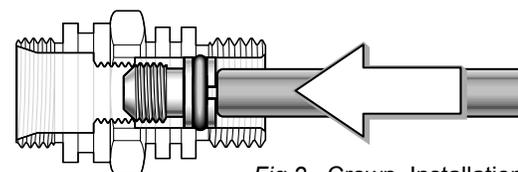

Fig.2 - Crown Installation
2. Install the exhaust grid (10) by inserting the upper tabs into the casing. Push both sides in, followed by pressing in the lower tabs.
3. Install the o-ring (11) on the inlet fitting (12), securing it into the groove at the base of the threads, just above the hex feature.
4. Install the o-ring (20) onto the crown (21), and carefully insert the threaded end of the crown into the hose connection of the inlet fitting (12).
5. Gently press it in further with the blunt end of the extraction tool (P/N 109437) until it stops (see Fig. 2).